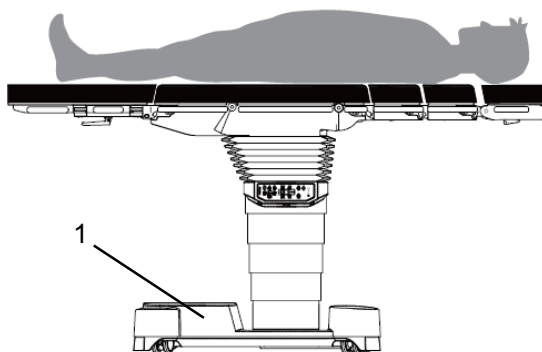

Figure 2-34 Reverse patient orientation
As the Figure 2-34 shows, the patient's legs are located above the operating table base (1).